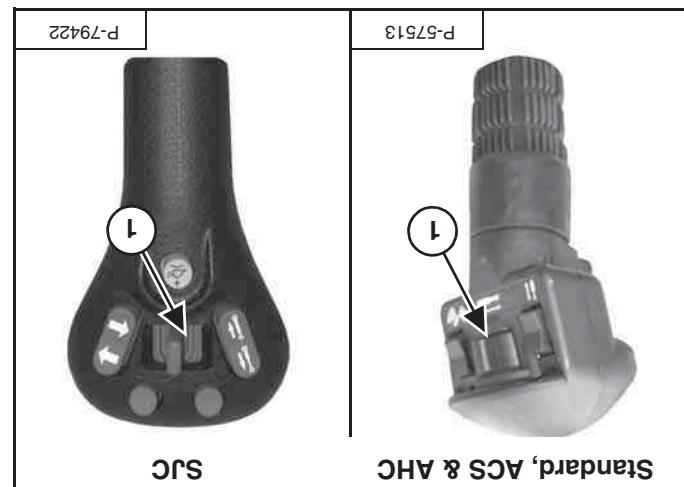
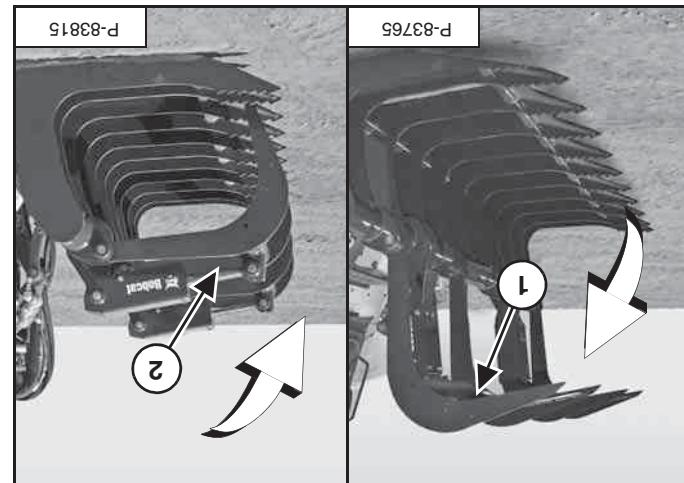

Figure 48
Figure 47
To close the grapple (item 2) [Figure 47] press the right steering handle switch (item 1) [Figure 48] to the left.
To open the grapple (item 1) [Figure 47] press the right steering handle switch (item 1) [Figure 48] to the right.